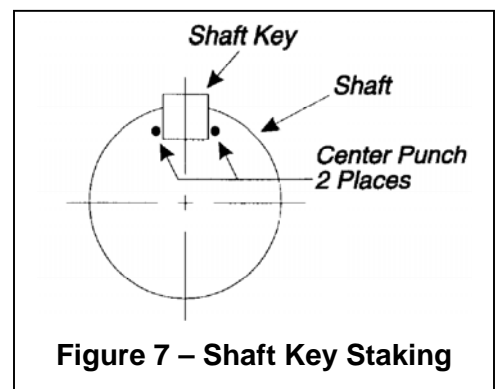

Figure 7 – Shaft Key Staking
5. Secure the key by staking with a center-punch on the end of the shaft. Stake on both sides of the shaft as shown in Figure 7.